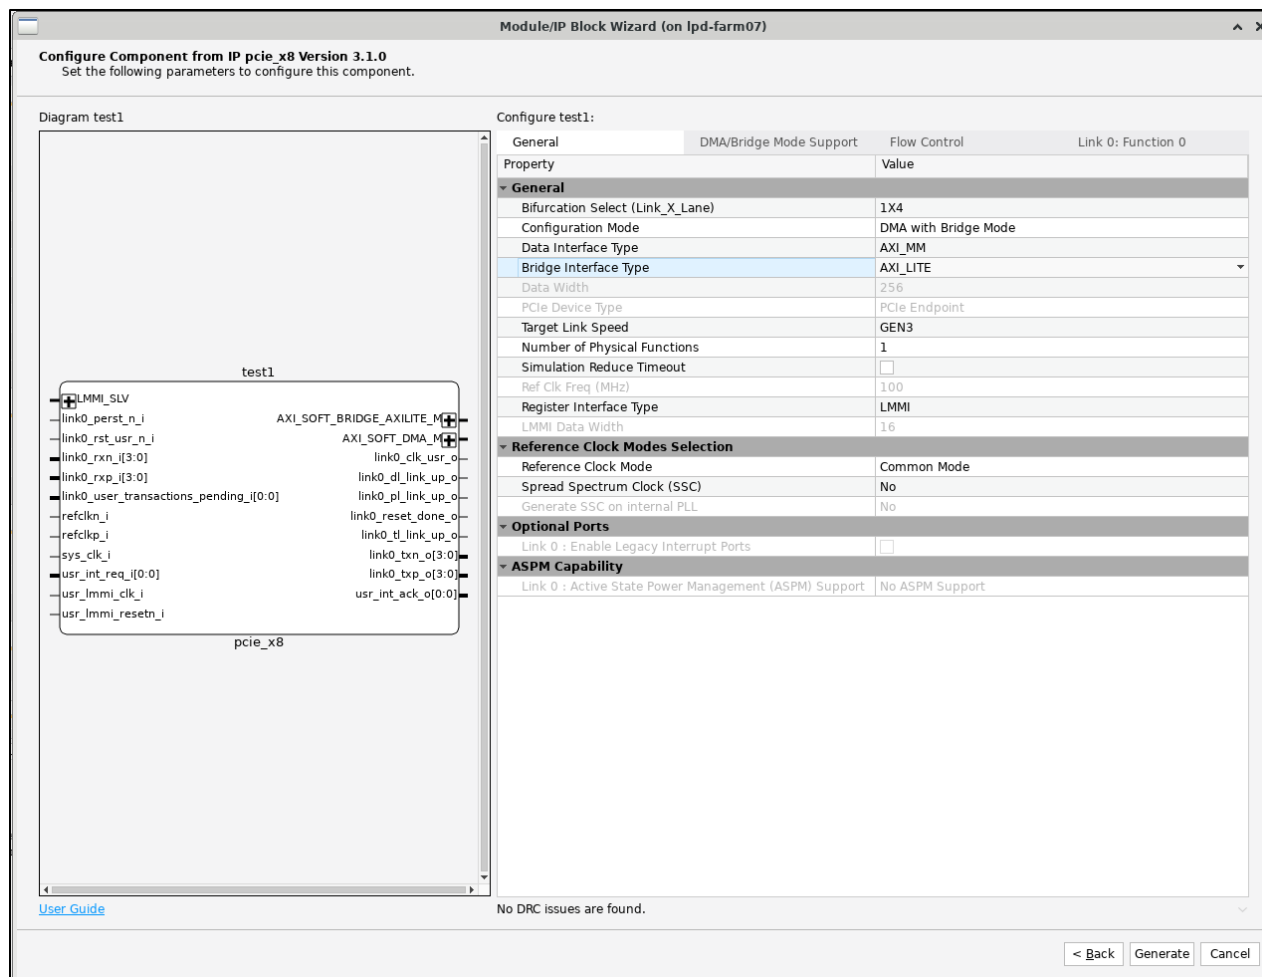

Figure 6.12. DMA with Bridge Mode Example Design Settings (General Tab)
7. To generate DMA with Bridge Mode example design, double-click the **PCIE_X8** in the **IP Catalog** and generate the IP by selecting **DMA with Bridge Mode** at **Configuration Mode** and **AXI_MM** at **Data Interface Type** drop-down menu. For **Bridge Interface Type**, either **AXI_LITE** or **AXI_MM** can be selected from the drop-down menu (refer to Figure 6.12). Under DMA/Bridge Mode Support tab, configure the **Number of User Interrupt** to a value from 1 to 4. Then, repeat steps 2 to 6.